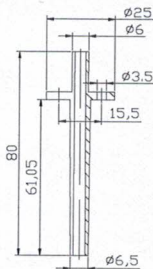
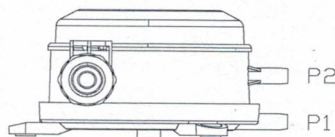

Fig. 5
Fig. 7
1. Insert the 2 pressure connection parts as Fig. 5 or 6 with the long side (60mm) into the prepared holes. Each part should be installed with 2 screws. Be sure to seal the holes after installing to keep the holes airtight.
2. Connect the plastic tube. The standard accessory is 2m long with inner  $\phi 6\text{mm}$ . Cut the tube as short as possible to connect the ports P1 & P2 on the switch and the other side of accessory of 1003 or 1009 as Fig. 5 or 6. P1 is high port on the bottom of the switch and P2 is low port on the switch body as Fig. 7.